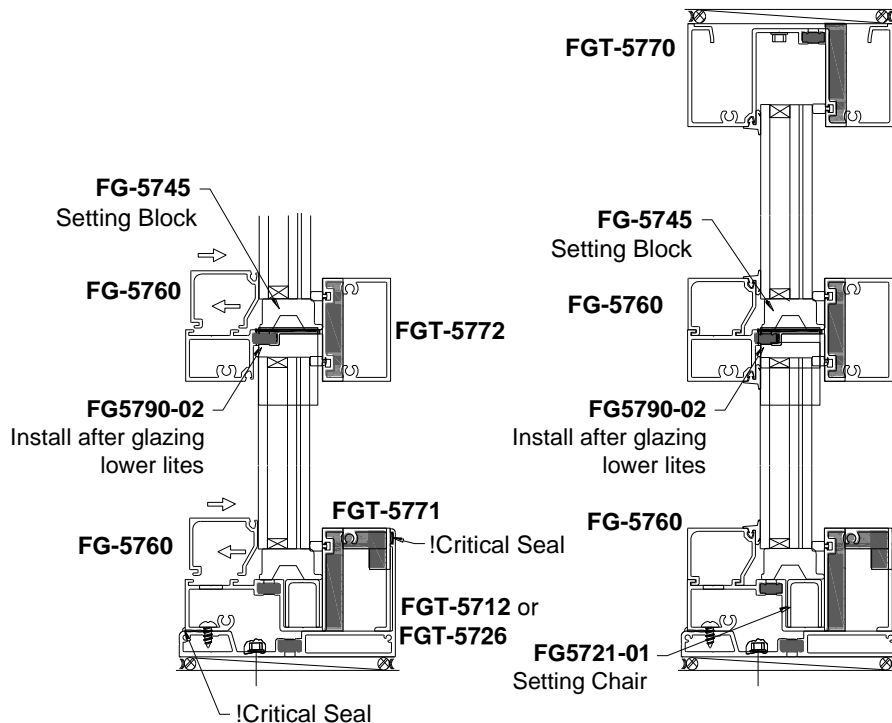

Figure 25: Glass Stop Installation
16.2.4 Install exterior **FG-5760** Glass Stops. See *Figure 25*.